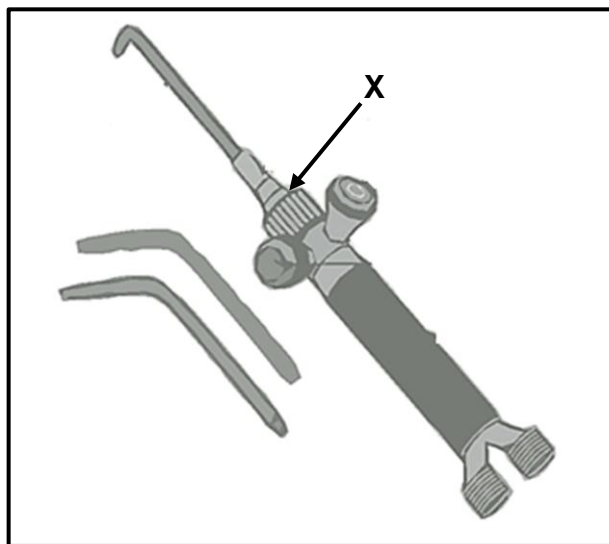

**FIGURE 4.5**
4.5 Identify the welding process shown in FIGURE 4.5 below: